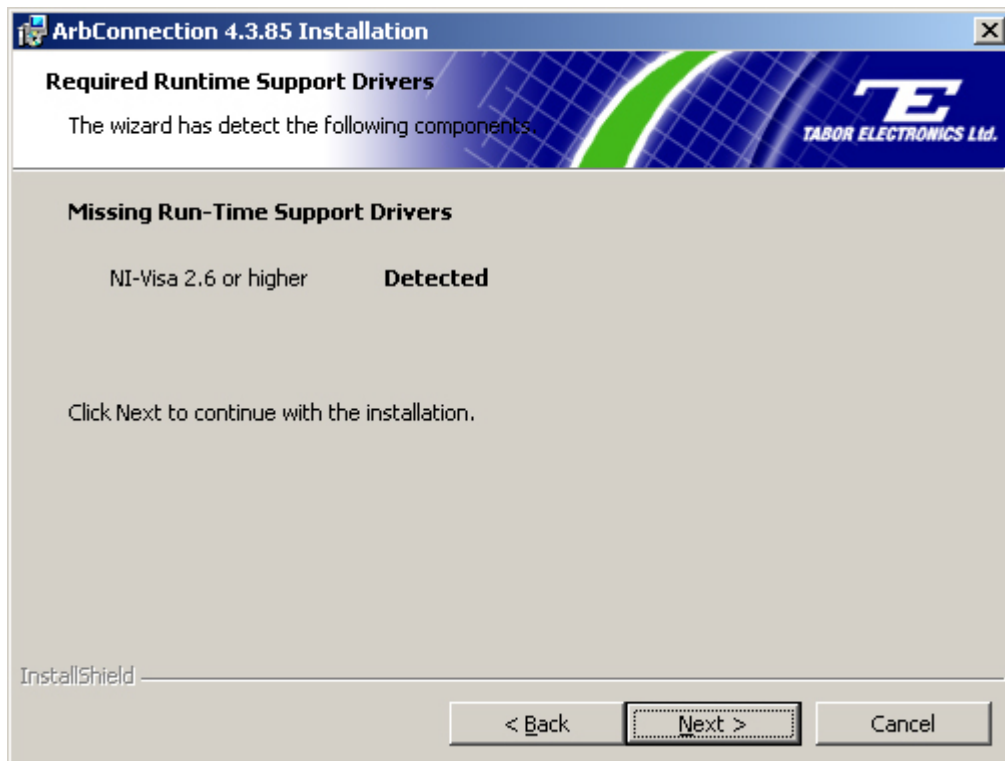
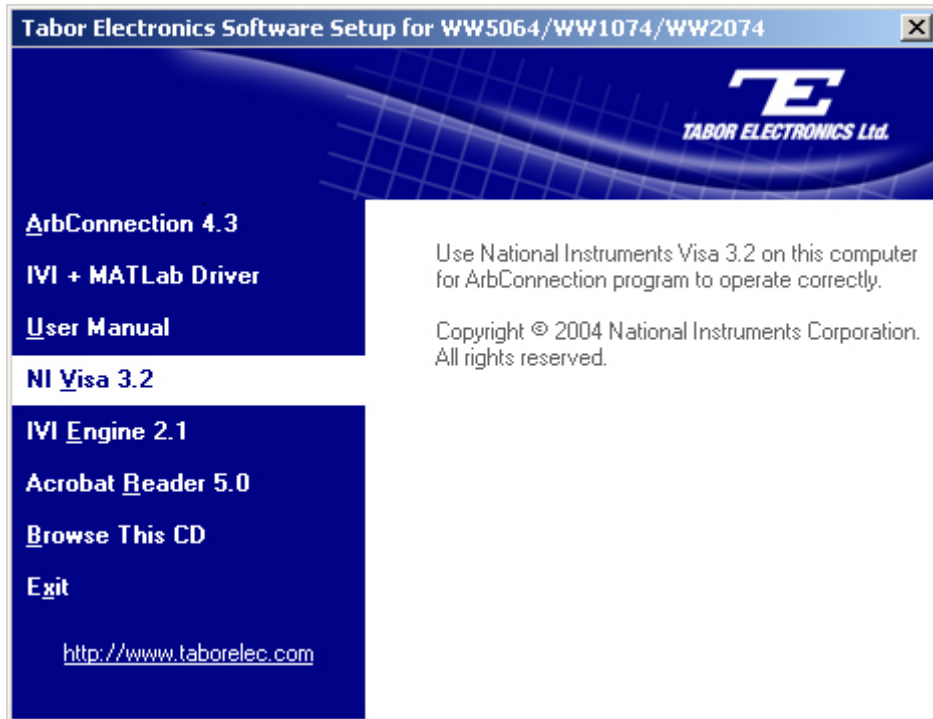

Figure 2-10: Missing Drivers Detected
Figure 2-11: Missing Drivers Selected for Download
9. In some cases, the wizard will detect missing drivers, which are necessary for installation. (see Figure 2-10) Click on “next” and select the missing driver from the list on the left, in this case, NI VISA 3.2 (Figure 2-11).